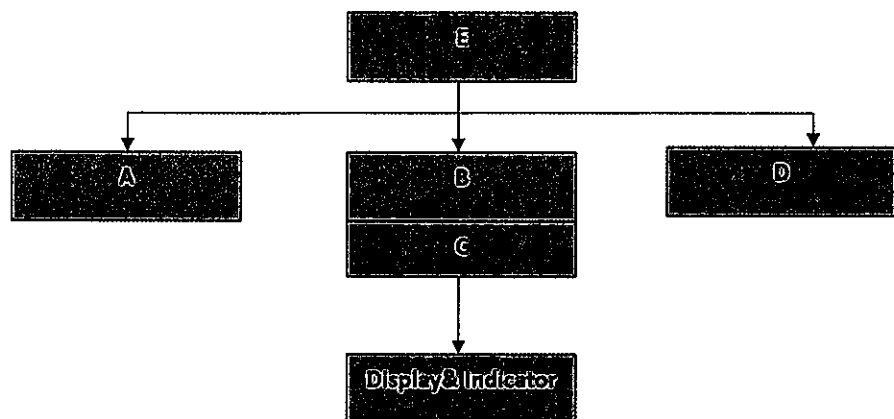

Figure A3(a) / Rajah A3(a)
- (a) Fill in the parts marked A, B, C D and E to complete the PLC building structure by referring to Figure A3(a).